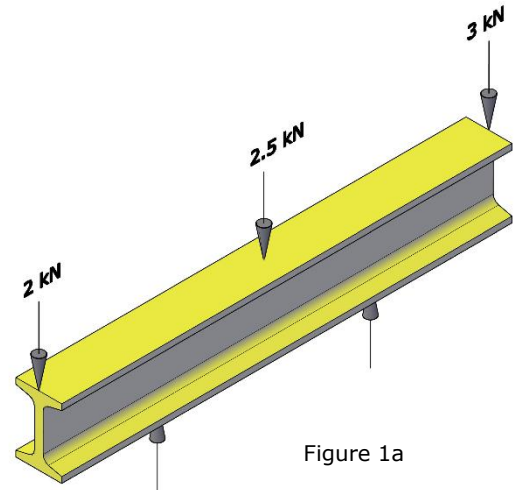
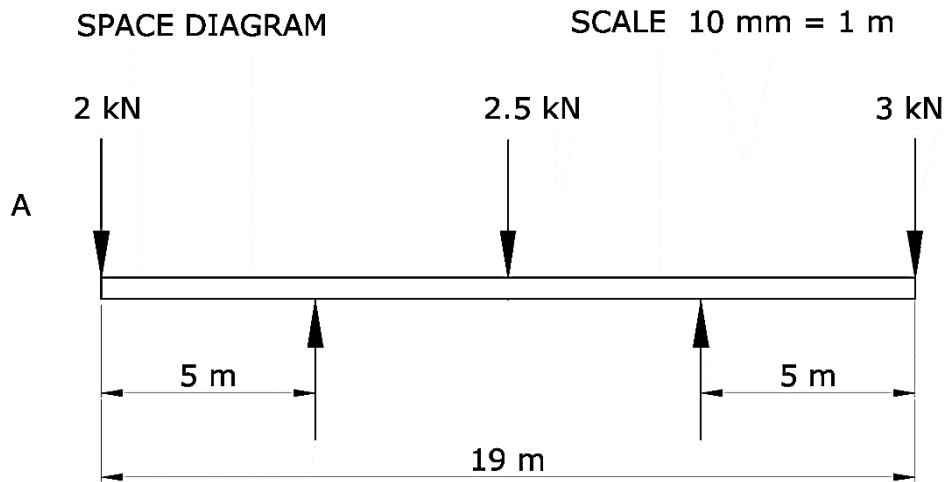

Figure 1a
Figure 1b
Two point loads at the free end of a steel beam and a load at the centre of the supports are shown in Figure 1a and in Figure 1b.
- a) Copy the given Figure 1b using the scale shown and annotate using Bow's notation. (2)
- b) Include a vector and polar diagram using a scale of 20 mm representing 1 kN. (2)
- c) Construct a funicular polygon. (4)
- d) State the position of the resultant / equilibrant from the left end of the beam. (1)
- e) Find graphically the magnitude of the left and right support. (3)
- f) Complete a shear force diagram. (1)